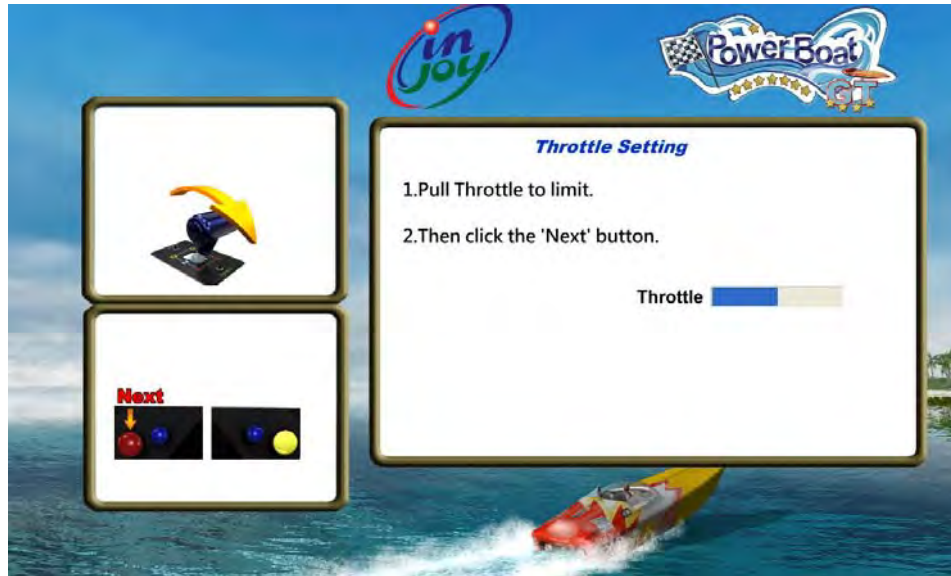

Figure 15 Calibrate Throttle
2. Push the Throttle to up limit & down limit, and then press the “Next” button (Figure 15).